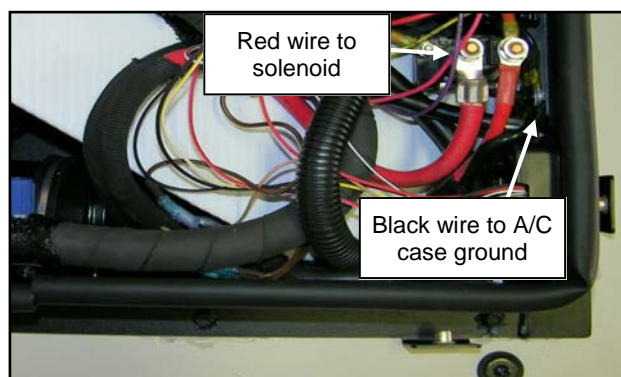

Fig. 2.16 (Connect Power Wires to A/C Unit)
- 2.16** Secure the heavy red wire to the unused lug of the solenoid at the front of the A/C unit. Figure 2.16.